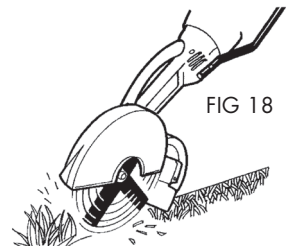
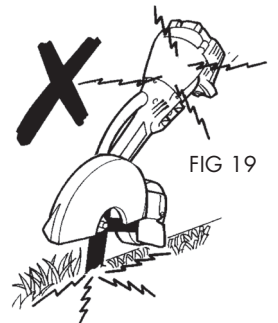

FIG 18
FIG 19
9. Blade rotating speed should be fast under load. If blade rotates slowly, jams or stops in the ground (Fig. 19), lower handles or release trigger and recommence (Fig. 18).
10. Clutch: The Atom Edger is equipped with a safety clutch. **DO NOT** run edger if blade is jammed, as clutch shoes will prematurely wear and cause damage if cutting blades do not rotate (Fig. 19).